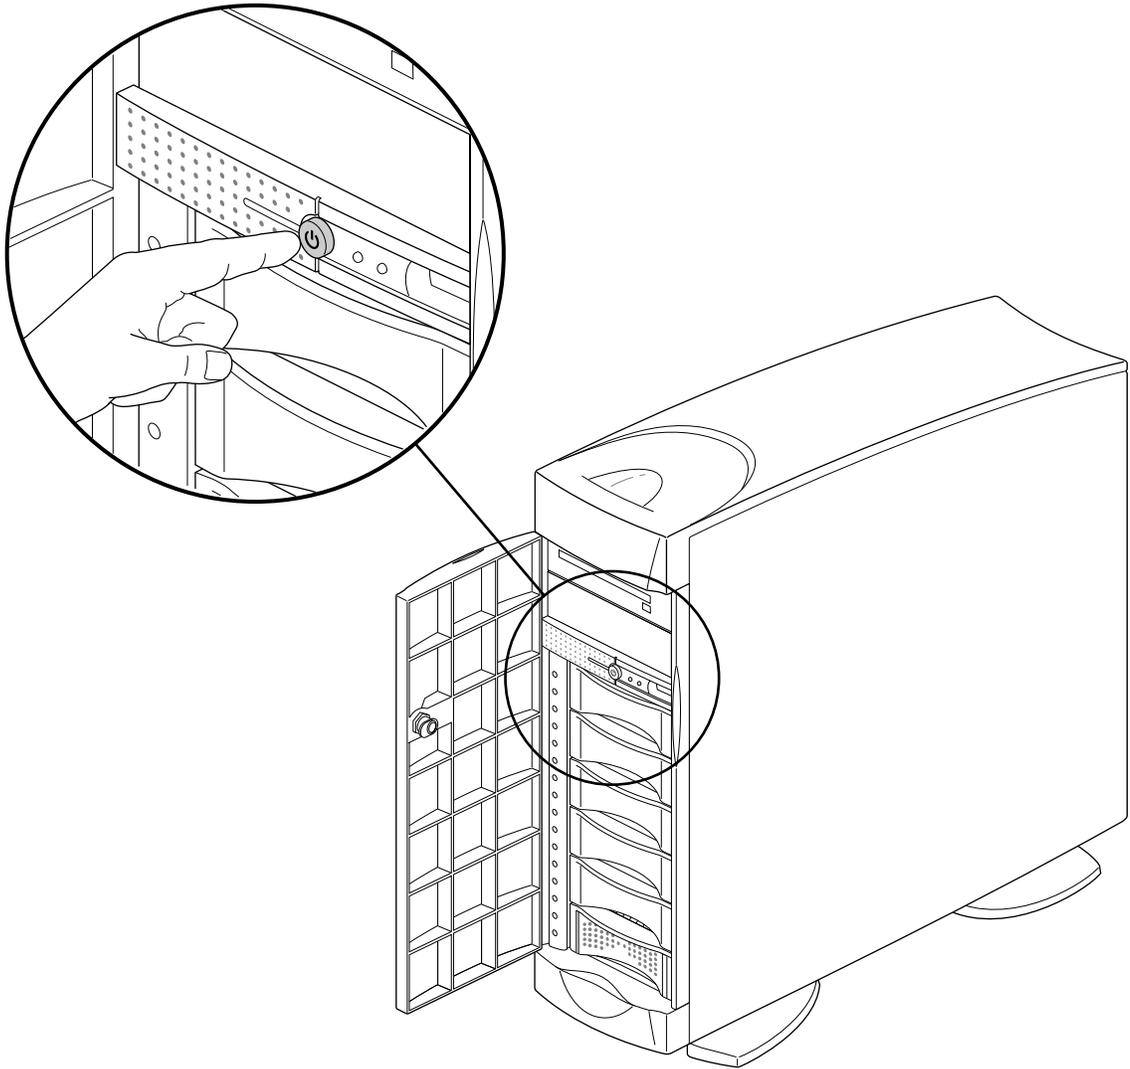

Figure 1-1 Turning Off the Front Power Switch
- Once you see the System Maintenance Menu, locate the power button at the front of the chassis (the master chassis in a two-module system) and press it once. See Figure 1-1. If you are going to move the system, wait a few more seconds to allow the internal disks to stop spinning.